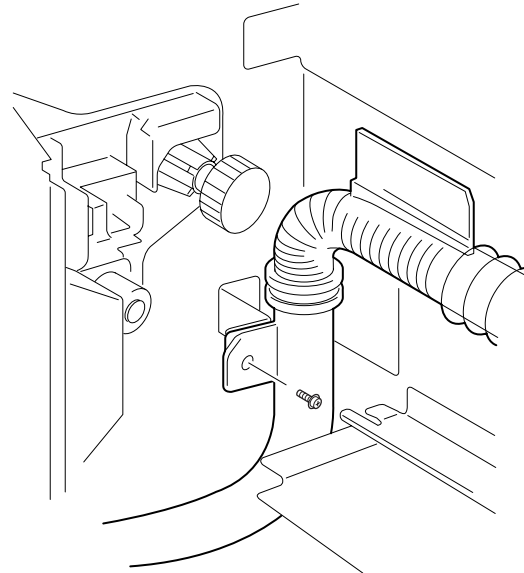

Figure 2
5. Slide the Belt Cleaner Assembly to the front of the printer and remove the Assembly through the Fuser cavity (Figure 2).
6. Remove the screw securing the Auger Tube to the rear of the printer frame (Figure 2).
5. Push down on the front of the Middle Drive Roll until the screw hole on the Roll arm (inside the Transfer Assembly) lines up with the screw hole on the front of the Transfer Assembly (Figure 2).